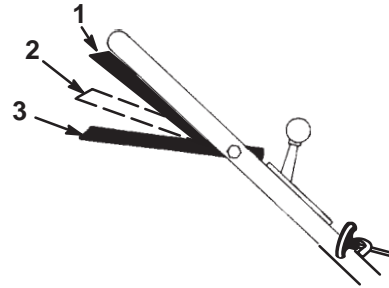

Figure 10
3. To engage the self-propel drive, move the ground speed control lever to one of the three forward speeds, then squeeze the control bar against the handle to the RUN/DRIVE position (Fig. 10).
Note: Do not shift speeds while control bar is squeezed against handle in the RUN/DRIVE position; the transmission could be damaged. Move control bar to the RUN/SHIFT position (Fig. 10) when changing ground speed.